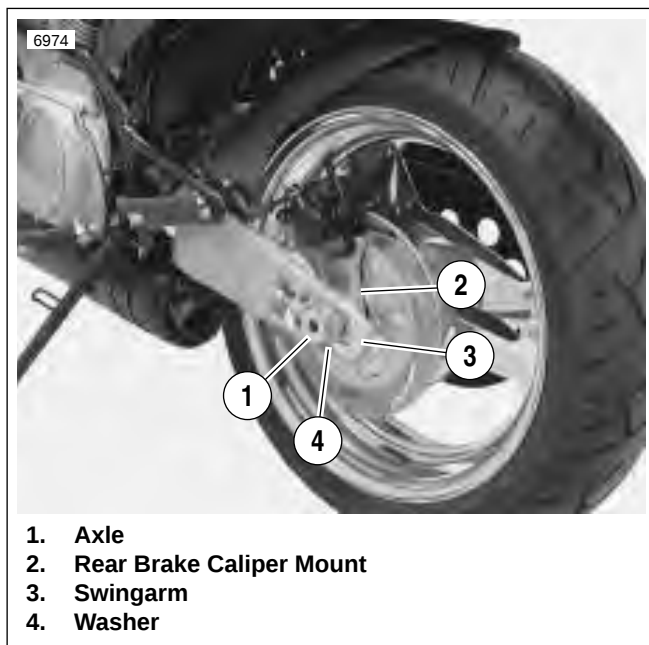

Figure 2-7. Rear Wheel With Axle Carrier (Left Side)
4. See Figure 2-7. Loosen rear axle nut (1).
5. Loosen rear axle adjuster locknuts (6, 7) and nuts (5) on both sides. Push wheel as far forward as possible.
7. Remove rear axle nut (1) (metric), lockwasher (2), washer (3), and axle carrier (4). Pull axle and washer out from left side and remove wheel.